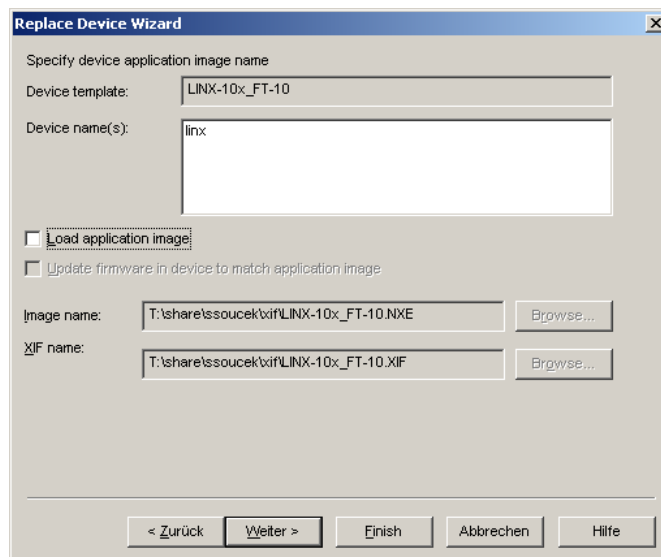

Figure 88: Click Next without loading an application image.
4. In the following window shown in Figure 88 click **Next**.